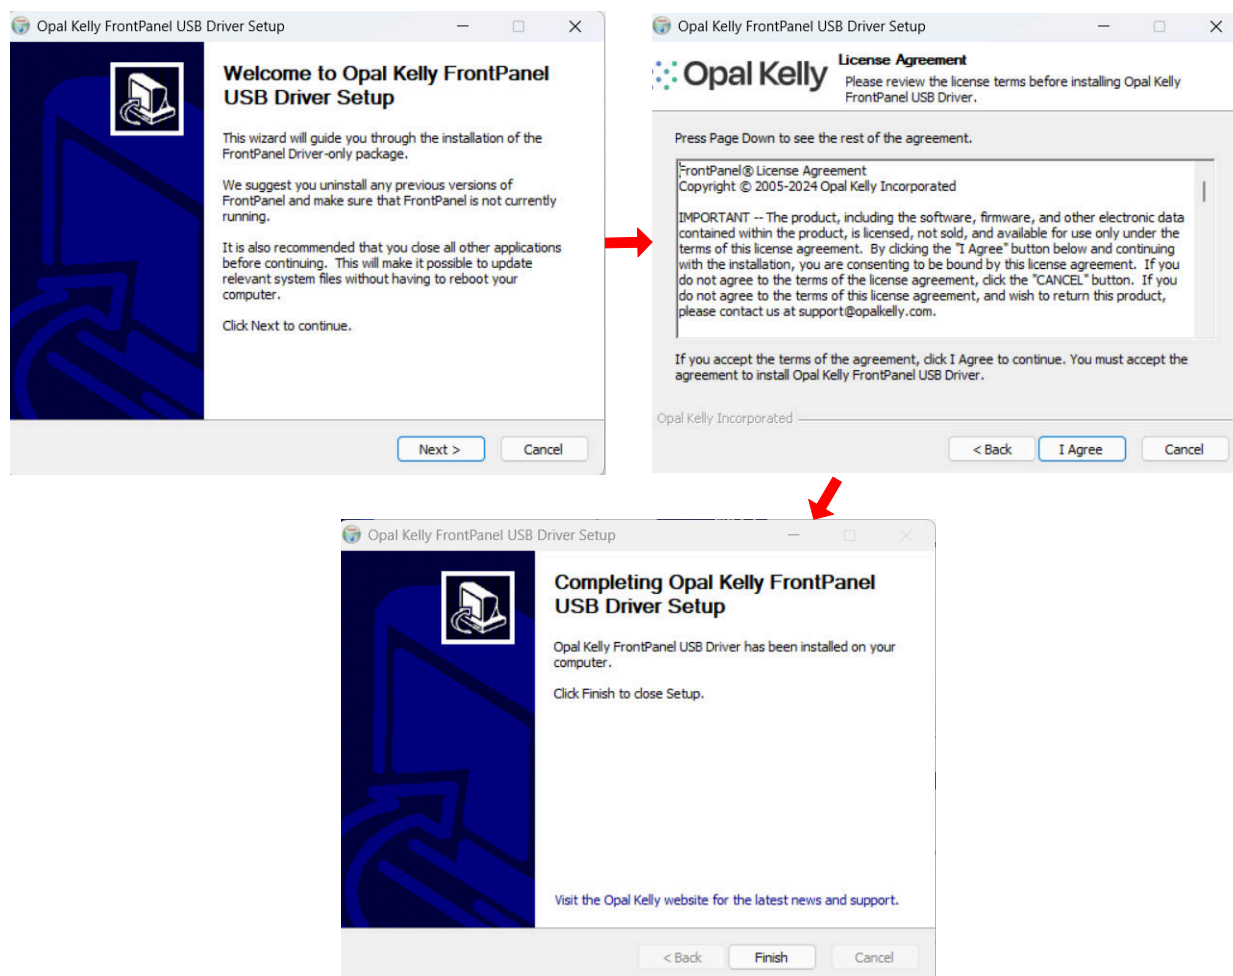

Figure 3-2. Software Installation
- Follow the on-screen instructions to complete the Opal Kelly front panel driver installation as shown in Figure 3-2.